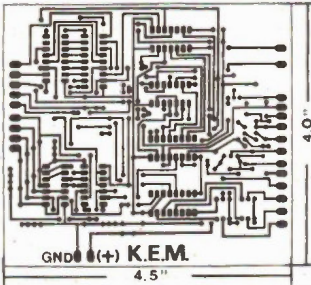

Fig. 1 Sample artwork (Solder side)
- Using black ink, tapes, letterings, draw your artwork on white paper or clear drawing film, taking care to letter clearly. Put the dimensions on the artwork in at least two places as shown in Fig. 1.
SAMPLE ESTIMATE FOR FIG. 1